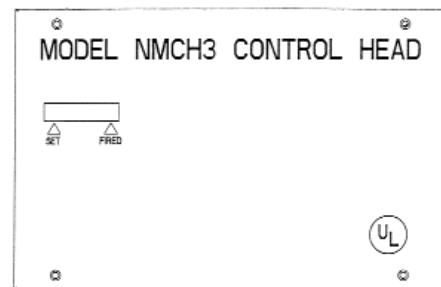

FIGURE 7
The Model NMCH3 Mechanical Control Head is a fully mechanical control head which can be connected to the A-15/17/25/35/50/70 tank valve. This control head will support a fusible link detection system, a remote mechanical pull station (Model RPS-M), and an electric shut-off valve. A micro switch (Model MS-SPDT, MS-DPDT, MS-3PDT, or MS-4PDT) can be ordered separately and field installed. There is no local manual actuation for the Model NMCH3. The Model NMCH3 control head can actuate a maximum of five (5) tanks. See Figure 7.